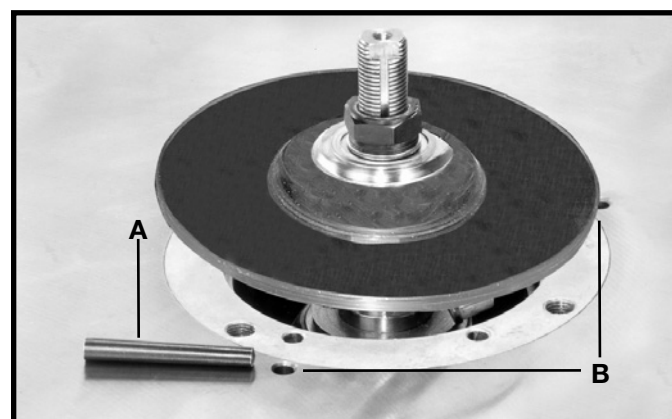

Fig.41
1. These tools are supplied with a tapered starting pin (A) Fig. 41, which is used as a support when starting the cut. The starting pin (A) is placed in one of the tapered holes (B) in the table.